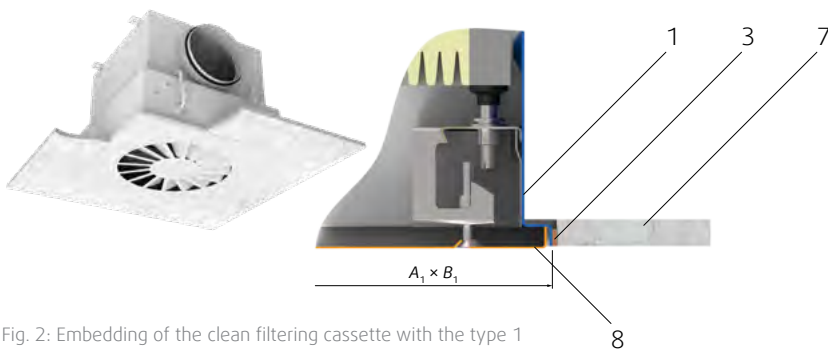
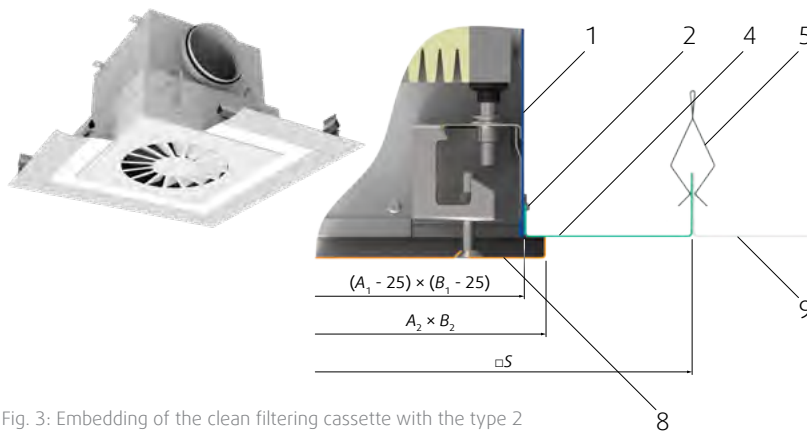
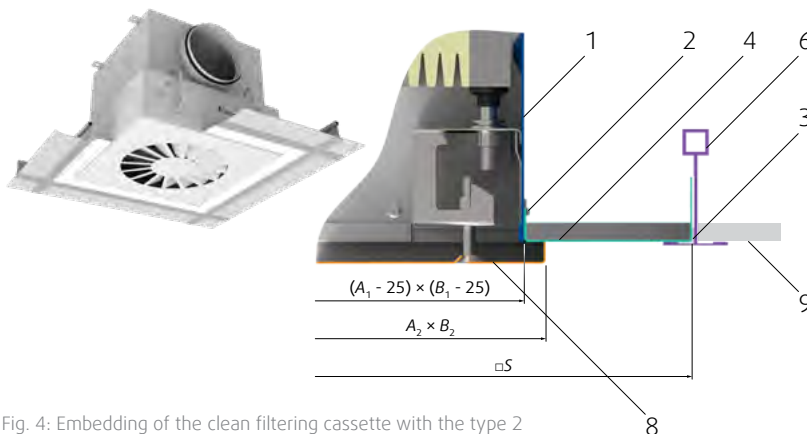

Fig. 2: Embedding of the clean filtering cassette with the type 1 front panel fitting surface into a plasterboard suspended ceiling
Fig. 3: Embedding of the clean filtering cassette with the type 2 front panel fitting surface into a metal plate suspended ceiling
Fig. 4: Embedding of the clean filtering cassette with the type 2 front panel fitting surface into a T-bar suspended ceiling
- The **ceiling** clean filtering cassettes are mounted by suspension into a supporting ceiling. For this purpose they are equipped with hangers. The details of embedding for the respective types of suspended ceilings are demonstrated on Fig. 2 up to Fig. 4 (below).
- Clean filtering cassettes with the type 1 front panel fitting surface are by default intended for installation into a plasterboard suspended ceiling (see Fig. 2 below).
- Clean filtering cassettes with the type 2 front panel fitting surface are by default intended for installation into a metal plate suspended ceiling (see Fig. 3 below) and a T-bar suspended ceiling (see Fig. 4 below).